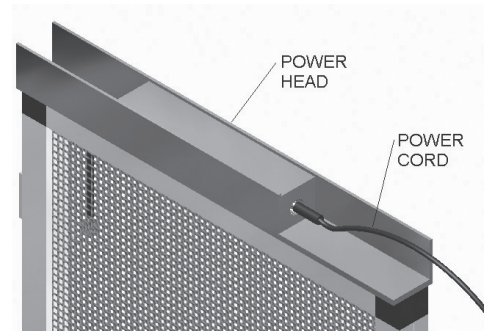

Fig. 1 Power Cord
3. Unplug the 24 volt power-cord (Fig. 1) and remove the PLP from the filter slot